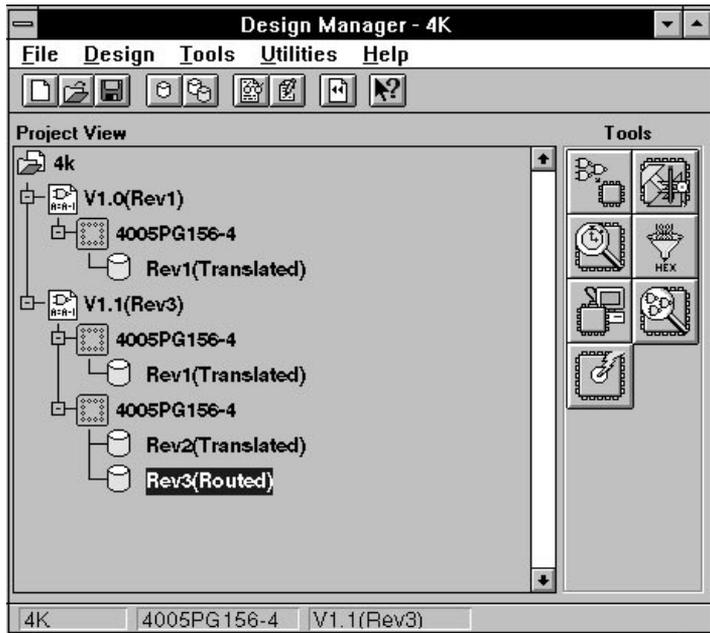

Figure 3-8 Routed XC4000 Design in the Design Manager
1. From the Design Manager, click the left mouse button on the routed design icon, as shown in Figure 3-8. Then select the **Implement** command from the Design menu.